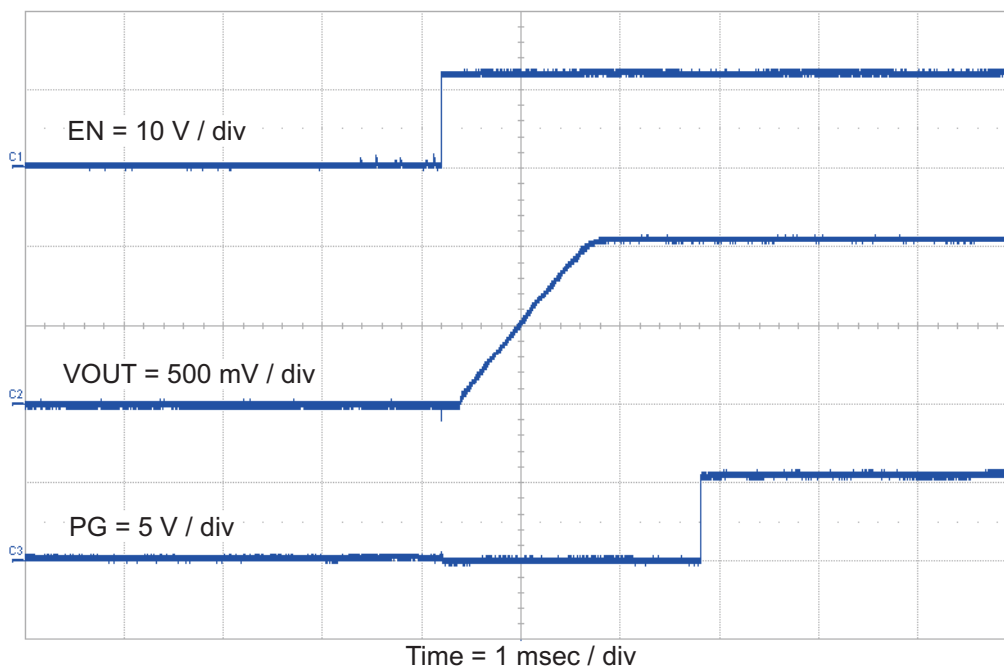

Figure 9. TPS54425EVM-608 Start-Up Relative to EN
The TPS54425EVM-608 start-up waveform relative to enable (EN) is shown in Figure 9.